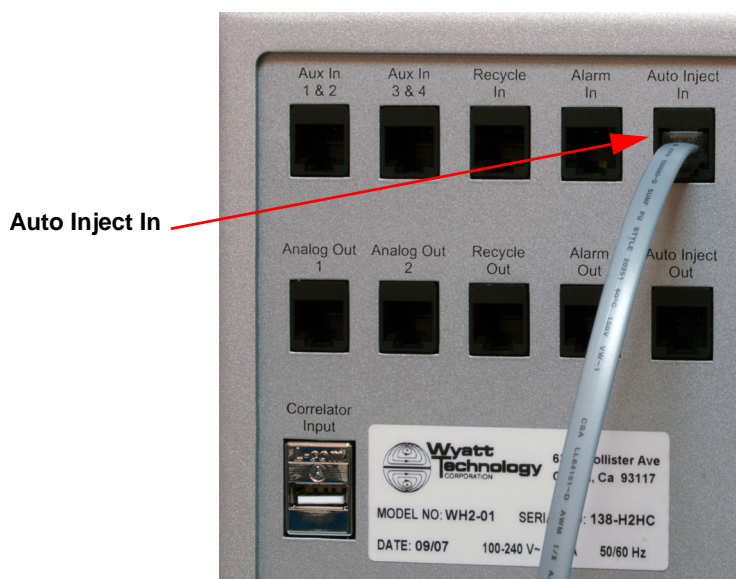

Figure 2-4: Wyatt Instrument back panel
4. **(Optional)** Using the provided RJ12 6P6C cable, connect the connector on the back of the DNDC Injector to the Auto Inject In connector on the back panel of the Wyatt instrument (see Figure 2-4). This contact closure signal will notify the software that an injection has been made.